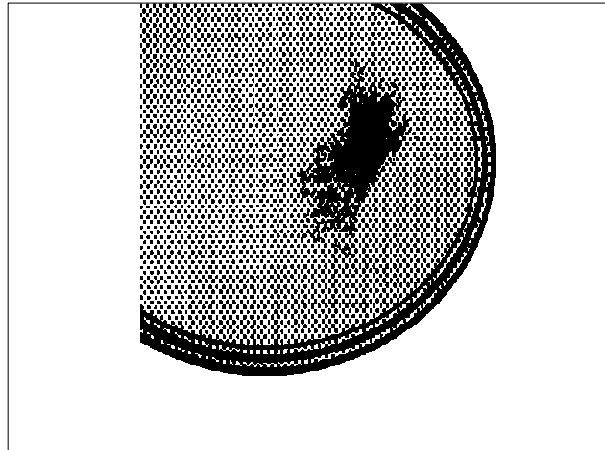

FIG. 4
- As time goes by metallic reflections, colouring or scratches may appear (fig. 4) due to poor cleaning and the incorrect movement of pans. Scratches are hard to eliminate but do not affect the correct operation of your hob.